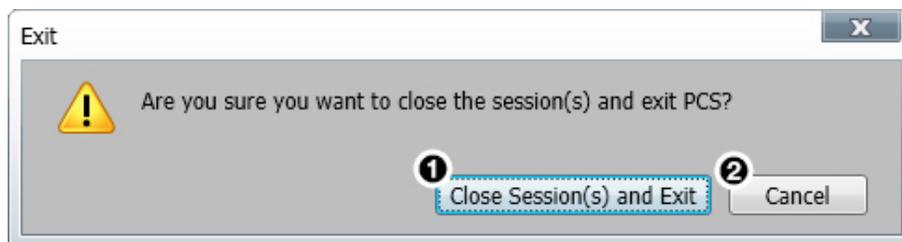

Figure 49. Exit Dialog Box
2. Click the **Details** button (see figure 49, ❶, for more information).